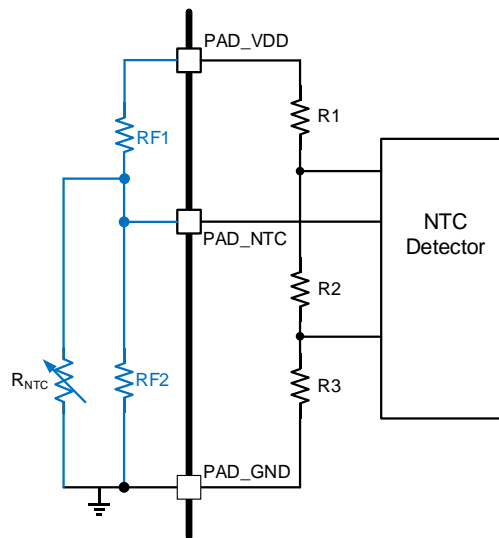

Figure 29 NTC Function(resistor-divided mode)
NTC pin is connected to the thermistor paralleled with a resistor R_{F2} to ground. Another resistor R_{F1} is connected to the VDD which is the chip's internal power supply voltage. The high temperature limit and low temperature limit can be varied by using different R_{F1} and R_{F2} . Illustrated in Figure 29, the off chip resistors must be connected as the blue part demonstrated. The resistance of R_{F1} and R_{F2} can be calculated by Equation (1) and Equation (2):